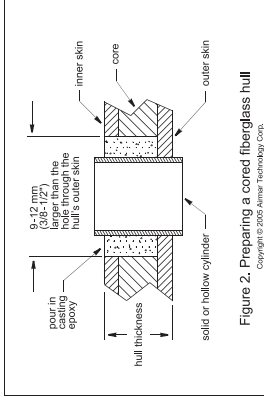

Figure 2. Preparing a cored fiberglass hull
2. Using the 21mm or 7/8" drill bit, cut a hole from outside the hull through the outer skin only (see Figure 2).